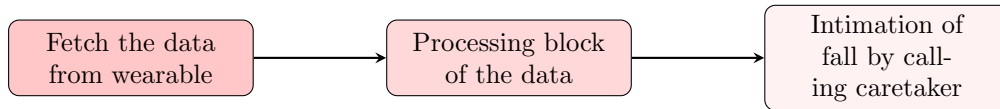

Figure 5.6: Workflow of fall detection system
- (k) The figure 5.6 shows the workflow of fall detection system.